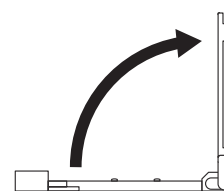

Fig. 26
3. The SIM holder is hinged and will open out to the right, see **Fig.26**.